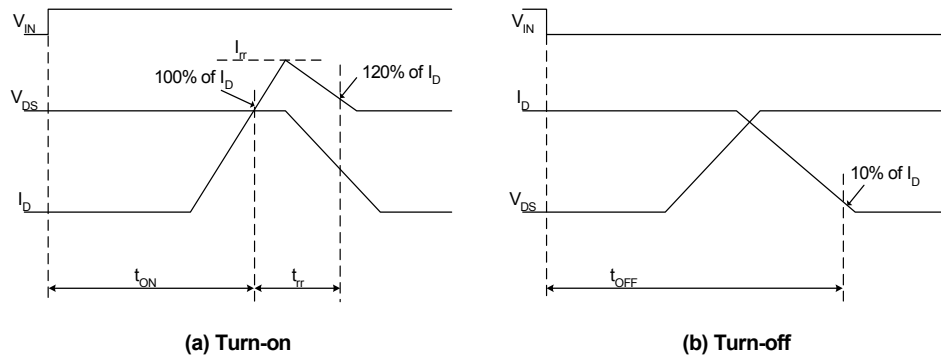
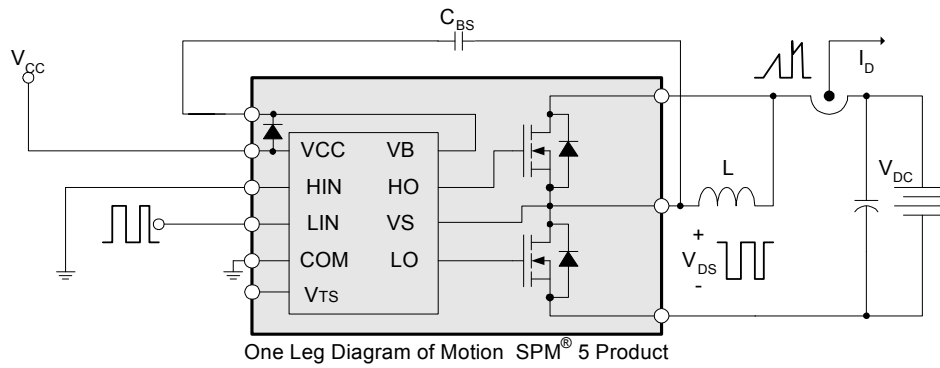

Figure 6. Switching Time Definitions
Figure 7. Switching and RBSOA (Single-pulse) Test Circuit (Low-side)
- $t_{ON}$  and  $t_{OFF}$  include the propagation delay of the internal drive IC. Listed values are measured at the laboratory test condition, and they can be different according to the field applications due to the effect of different printed circuit boards and wirings. Please see Figure 6 for the switching time definition with the switching test circuit of Figure 7.
- The peak current and voltage of each MOSFET during the switching operation should be included in the Safe Operating Area (SOA). Please see Figure 7 for the RBSOA test circuit that is same as the switching test circuit.